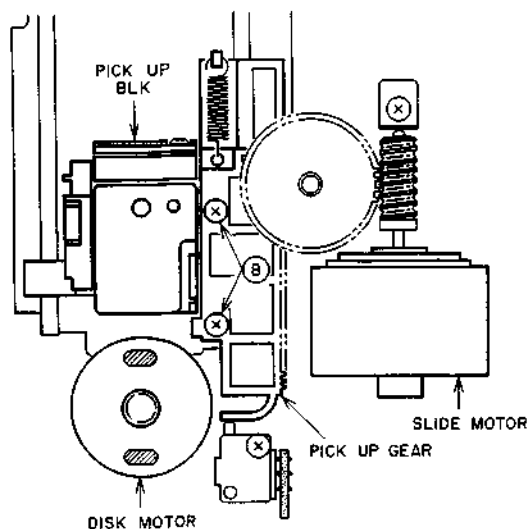

Fig. 5-3
- 4) Loosen two pick-up fixing screws B, remove the pick-up gear. (Refer to Fig. 5-3)